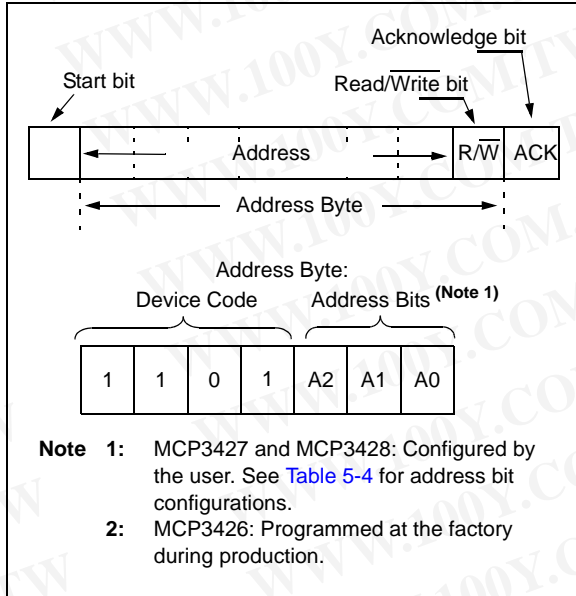

FIGURE 5-1: Address Byte.
Figure 5-1 shows the details of the address byte.
- See Figure 5-1 for details in Address Byte.